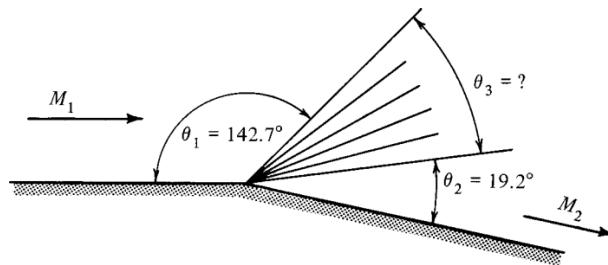

Figure P8.2
- 8.2** A Schleiren photo of the flow around a corner reveals the edges of the expansion fan to be indicated by the angles shown in Figure P8.2. Assume that $\gamma = 1.4$.
(a) From Figure P8.2, we find $\theta_1 = 142.7^\circ$, $\theta_2 = 19.2^\circ$.